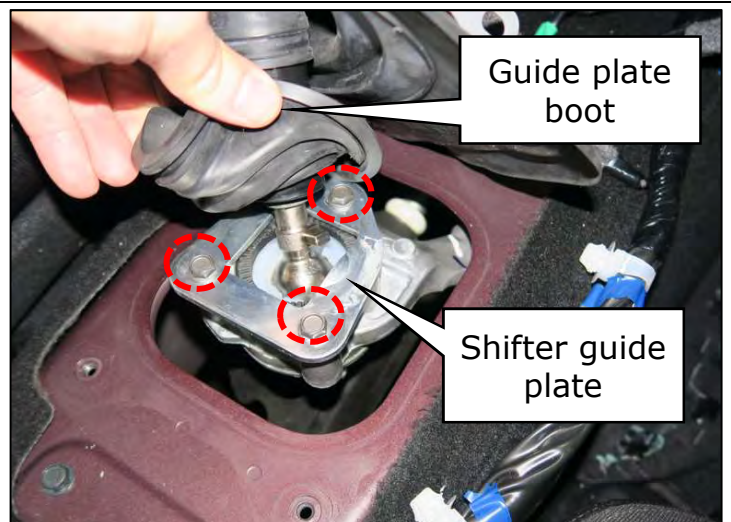

Figure 39
40. Remove the shifter assembly. (Figure 39)
- While pressing the guide plate downward, remove the (3) bolts securing it to the transmission